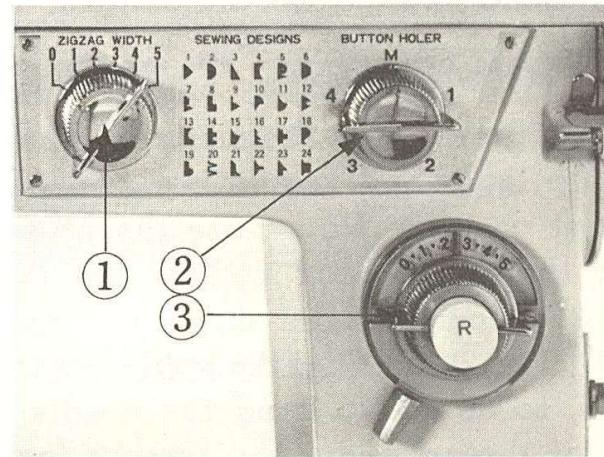

Fig. 23
- (1) Align the indicator of buttonholer control dial ②, Fig. 23 with the point marked "M".
- (2) Align the indicator of zigzag width control dial ① with any desired width between 0-5.
- (3) Align the stitch length indicator ③ with the stitch length you have decided to use.